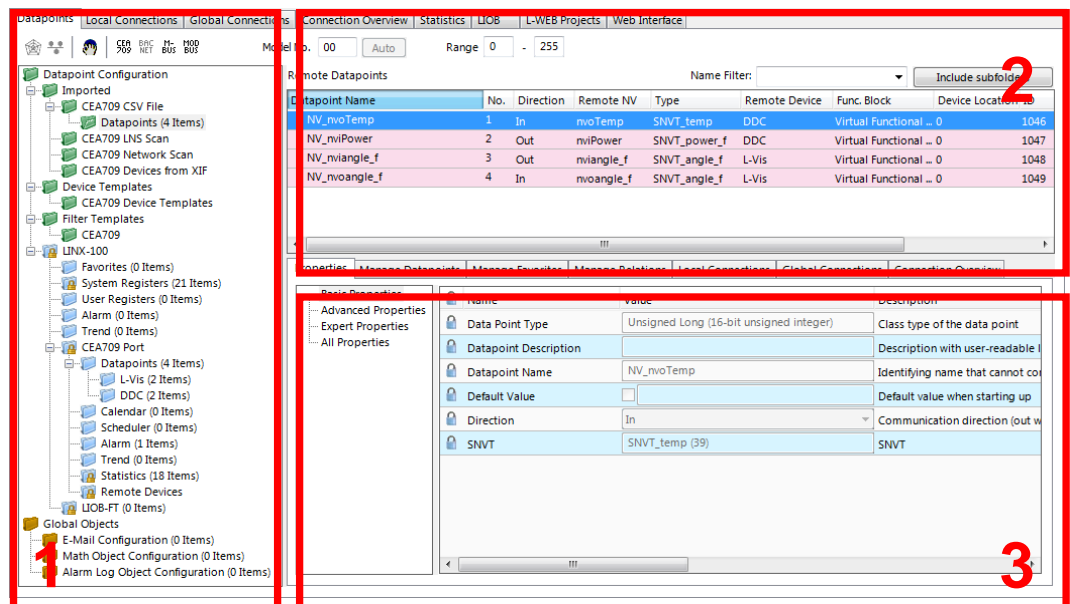

Figure 18: Data Point Manager Dialog.
The Configurator uses a central concept to manage data points. The data point manager is located on the **Datapoints** tab as shown in Figure 18. It is used to select, create, edit and delete data points. The dialog is divided into three sections:
- The folder list (number 1 in Figure 18),
- The data point list (number 2 in Figure 18),
- And a property view (number 3 in Figure 18).